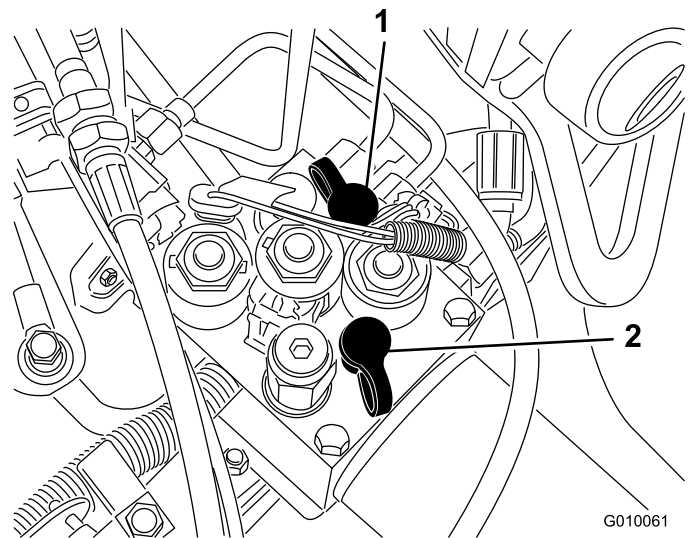

Figure 60
- Test Port G 1 (Figure 60) is used to assist in trouble shooting the lift circuit pressure.
- Test Port G 2 (Figure 60) is used to assist in trouble shooting the traction charge circuit.